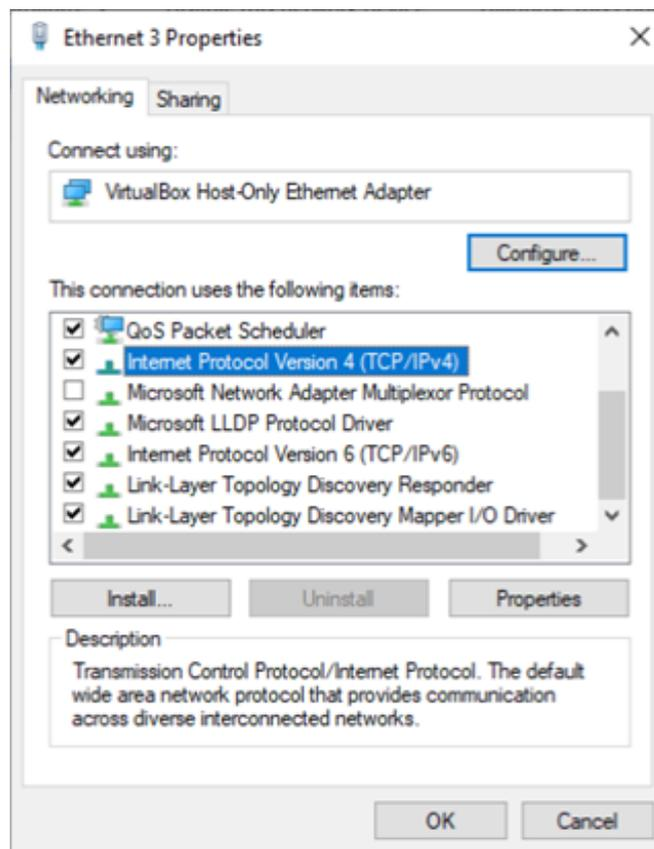

Figure 10
**Step 5.** Select Internet Protocol Version 4 (TCP/IPv4) and click “Properties”. (figure 10)